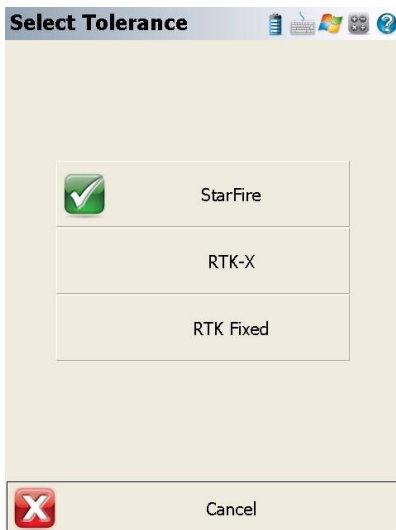

Figure 60: Select Tolerance
5. On the **Select Tolerance** dialog (refer to Figure 60), select an active tolerance, and then click **OK** on the **GNSS Profile** dialog box.